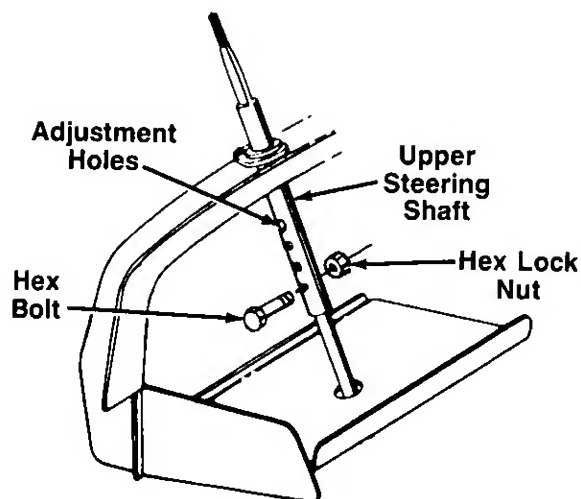

FIGURE 11.
1. Insert large end of the upper steering shaft through the hole in the dash panel, over the lower steering shaft. See figure 11. The four holes in the upper steering shaft provide four steering wheel heights. Select desired hole, and secure with hex bolt and hex lock nut.